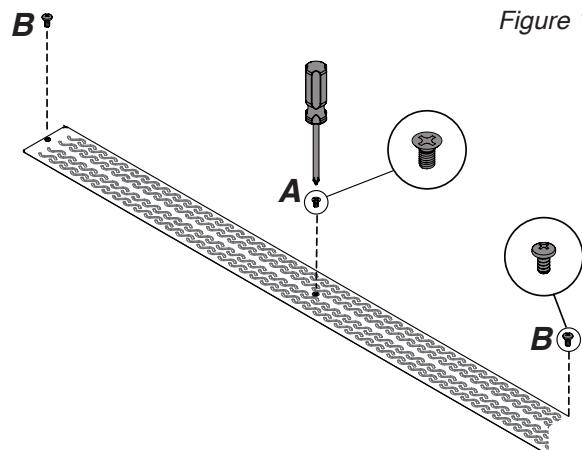

Figure 13
When all mounting holes are aligned, install the flat head screw in center hole (A). **Do not tighten.** Then install the two pan head screws in each of the end mounting holes (B) **Do not tighten.** Once all screws are in place, tighten screw in center first, then tighten screws in the end holes. (Figure 13)